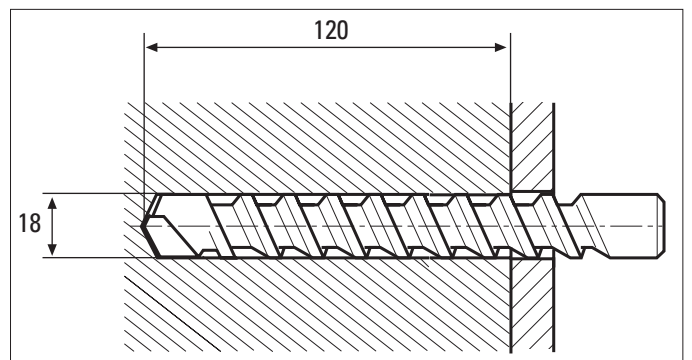

Fig. 6
- ⇒ Drill the main holes 18 mm diameter and 120 mm deep (Fig. 6).